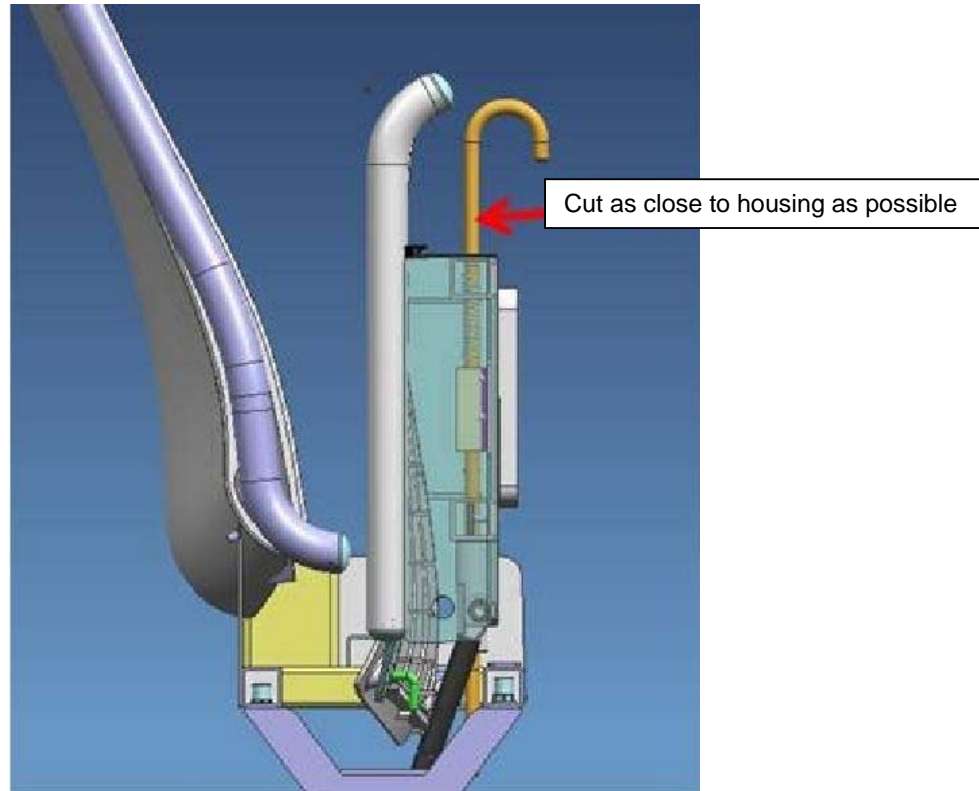

Figure 2: Typical Locking Rod in Extended Position
3. Extend the locking rod and secure it in the extended position. See Figure 2.
4. Cut the pull handle of the locking rod off as close to the housing as possible. See Figure 2.